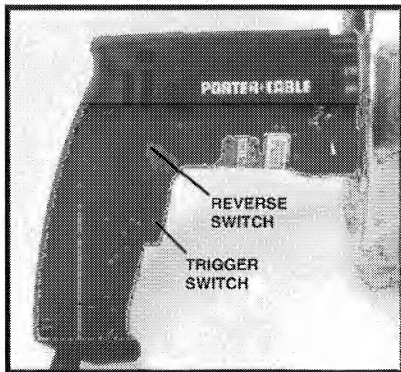

Fig. 3
**CAUTION:** Make sure TRIGGER SWITCH (Fig. 3), is OFF. Make sure power circuit voltage is the same as that shown on the specification plate of the Drain Cleaner. Make sure cable is fully retracted into drum. Connect Drain Cleaner to power circuit.
1. Squeeze TRIGGER SWITCH (Fig. 3), to start motor. Release trigger switch to stop motor. As the trigger switch is squeezed, the motor speed increases.
2. The REVERSING SWITCH (Fig. 3), changes the direction of rotation. FORWARD rotation is used when feeding the cable into the drain and when removing cable from drain. REVERSE rotation is ONLY used to free the cable if it gets hung up.